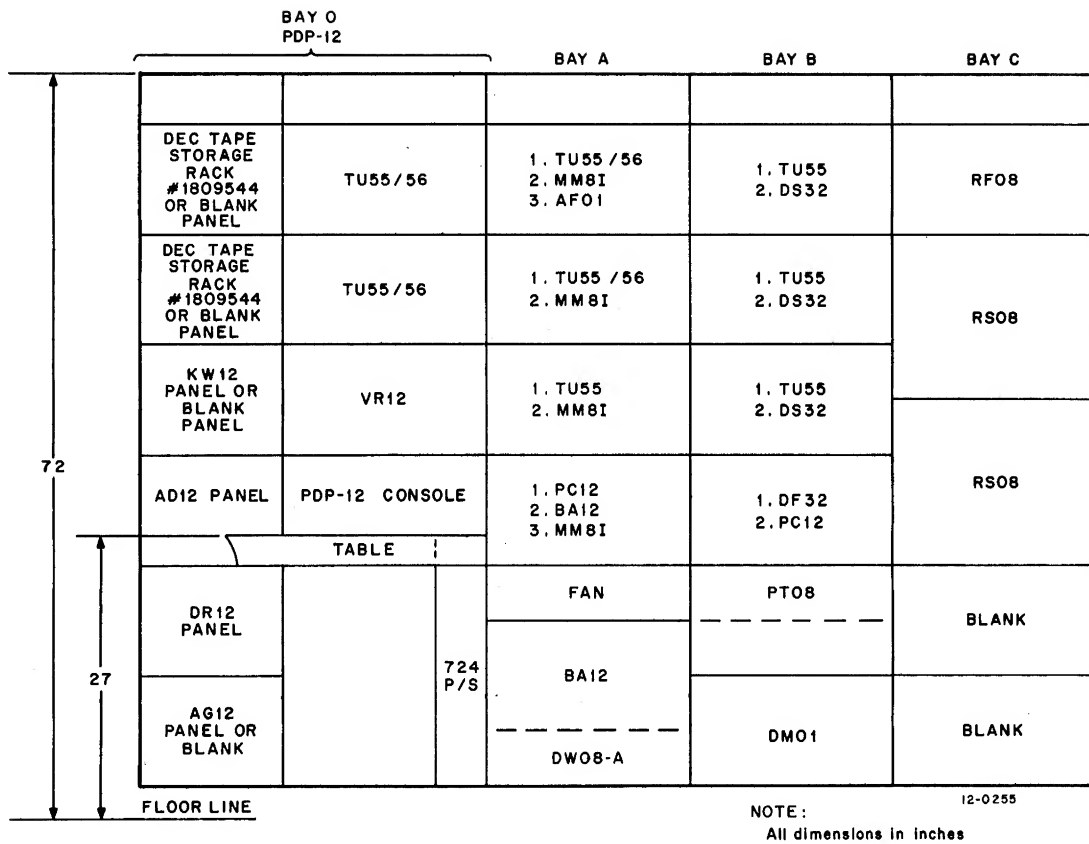

Figure 1-3 PDP-12 Expanded Equipment Layout (see Drawing PDP12-0-2)
- a. Determine the location of the installation and the system configuration. If applicable, make an installation layout diagram, using the information in Paragraph 1-2. Figures 1-3 and 1-4 illustrate PDP-12 Cabinet dimensions and equipment layouts.